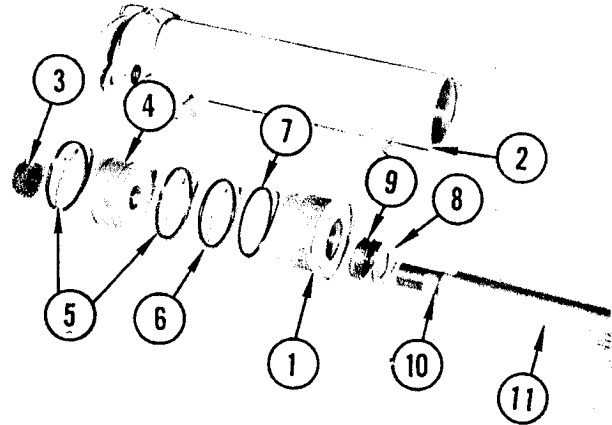

FIGURE 17. TILT CYLINDER DISASSEMBLY
Refer to Figure 17. Unscrew packing gland (1) from cylinder (2). Pull piston rod assembly from cylinder. Remove nut (3) from piston rod. Remove piston (4) from piston rod and remove piston rings (5) from